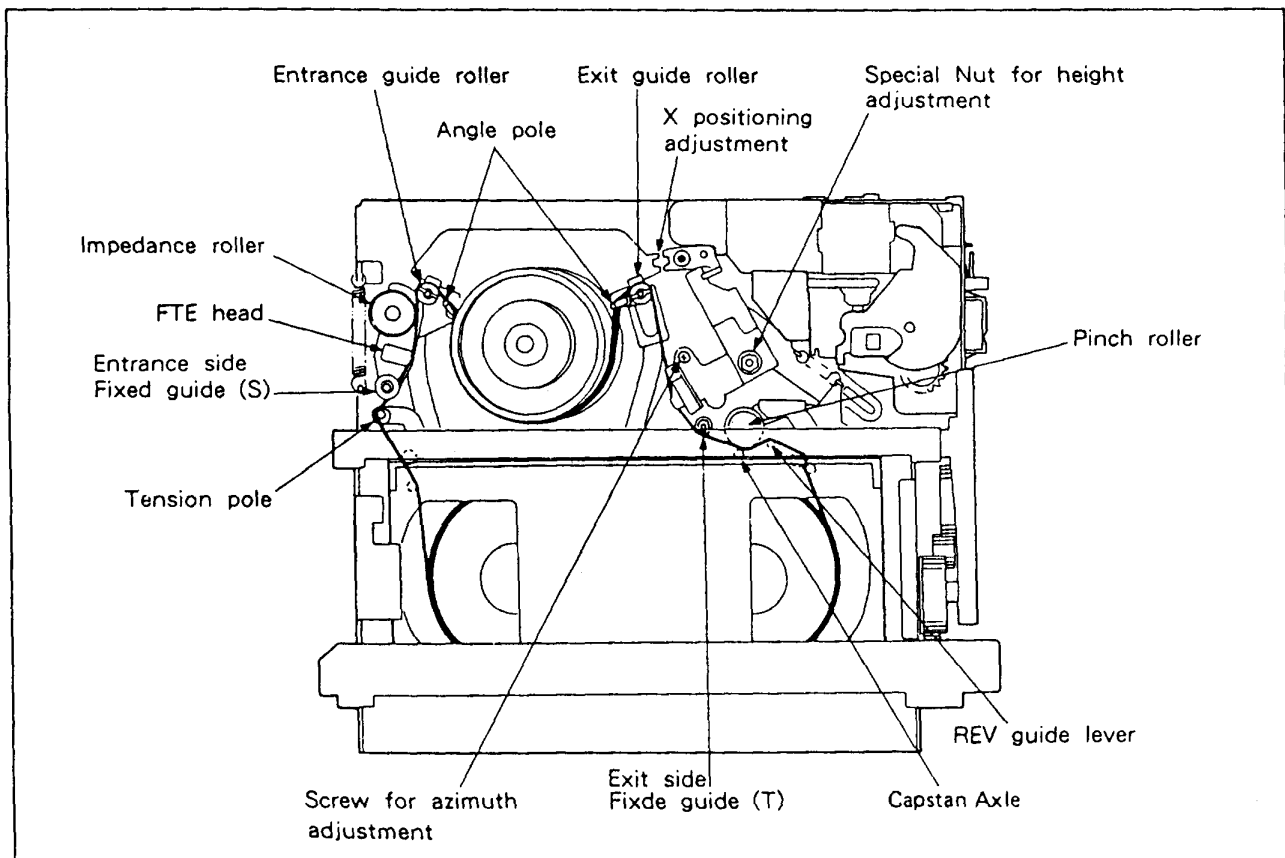

Fig. 6-4-1. Preparation for Adjustment
The tape path mechanism is precisely adjusted at the factory. Normally no readjustment is required, but checking and/or adjustment is necessary when parts of the tape path mechanism among those shown in the figure below (See Fig. 6-4-1.) have been removed or replaced after a long period of use.
- (1) Clean the tape transport surfaces (See Fig. 6-4-1.).
- (2) Connect the oscilloscope. Connect the channel 1 probe to the envelope waveform test point, and the channel 2 probe to the SW30 (RF SW P) test point. During adjustment, apply a trigger to the low side of the SW30 (RF SW P) in order to monitor the waveform output from channel 1 of the video head.
- (3) Use a dentist's mirror for visual observation of tape path condition.
- (4) Use an eccentric driver (VHJ-0003) for adjustment of the guide rollers.
- (5) When adjusting height of the fixed guide, guide rollers or COMPL head bracket, turn the special nut or the upper flange clockwise to push the tape downward, and counterclockwise to make the tape rise up.
- (6) Do not use the damaged cassette tapes for tape path adjustment.